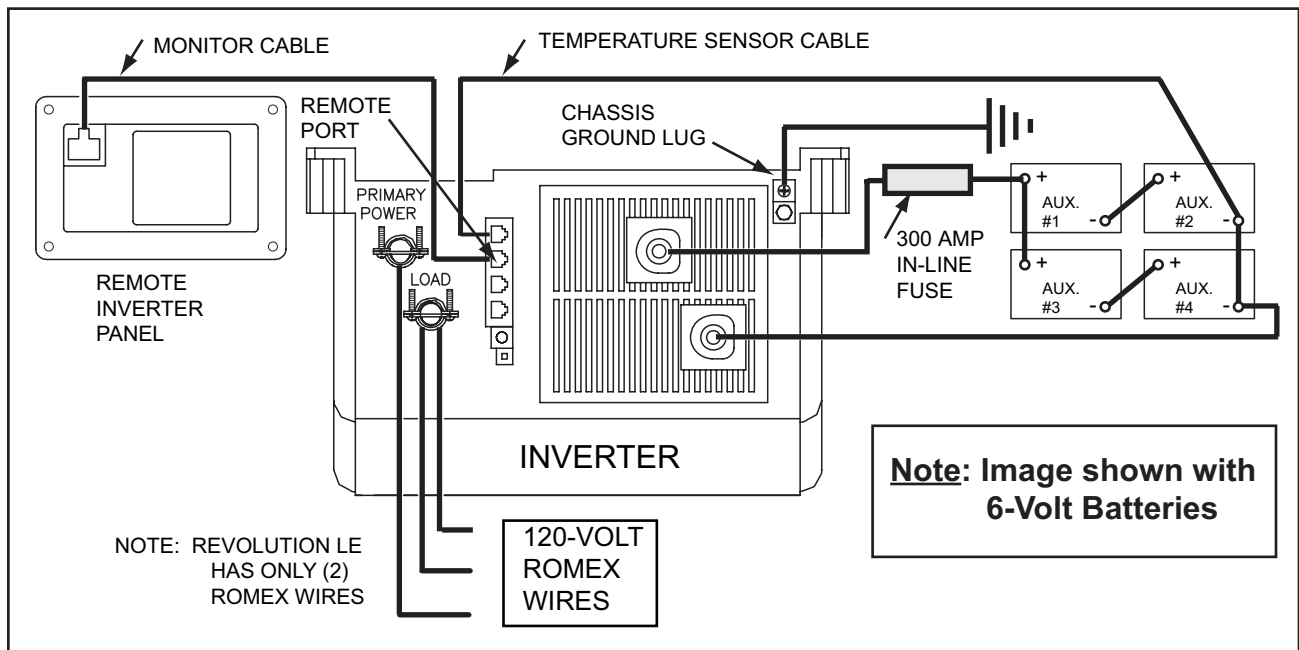

Figure 3
4. Locate the 300 Amp in-line fuse on the auxiliary battery positive cable. Disconnect the battery positive cable from the inverter side of the 300 Amp in-line fuse. See Figure 3.
5. Label and then disconnect the battery cables from the front of the inverter. See Figures 3 and 4.
6. Label and then disconnect the temperature sensor cable and the monitor cable from the front panel of the inverter. See Figures 3 and 4.
7. Loosen the Romex cable clamps for the 120 Volt wires. See Figures 3 and 4.
19. Connect the battery cables to the front of the inverter. Torque battery cable fasteners to 10-12 ft-lbs. See Figure 3.
20. Reconnect the battery positive cable to the 300 Amp in-line fuse and torque to 120 in-lbs. See Figure 3.